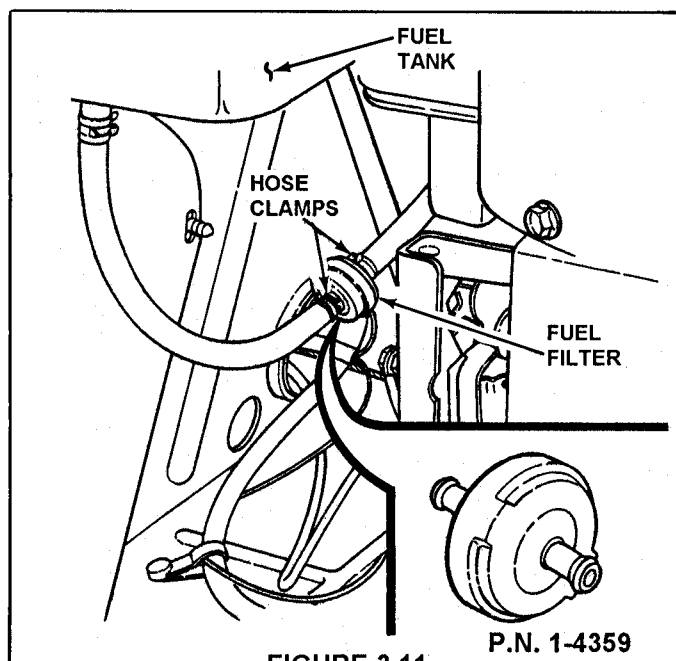

FIGURE 3.11
3. Install new fuel filter, Part Number 1-4359. See Figure 3.11.